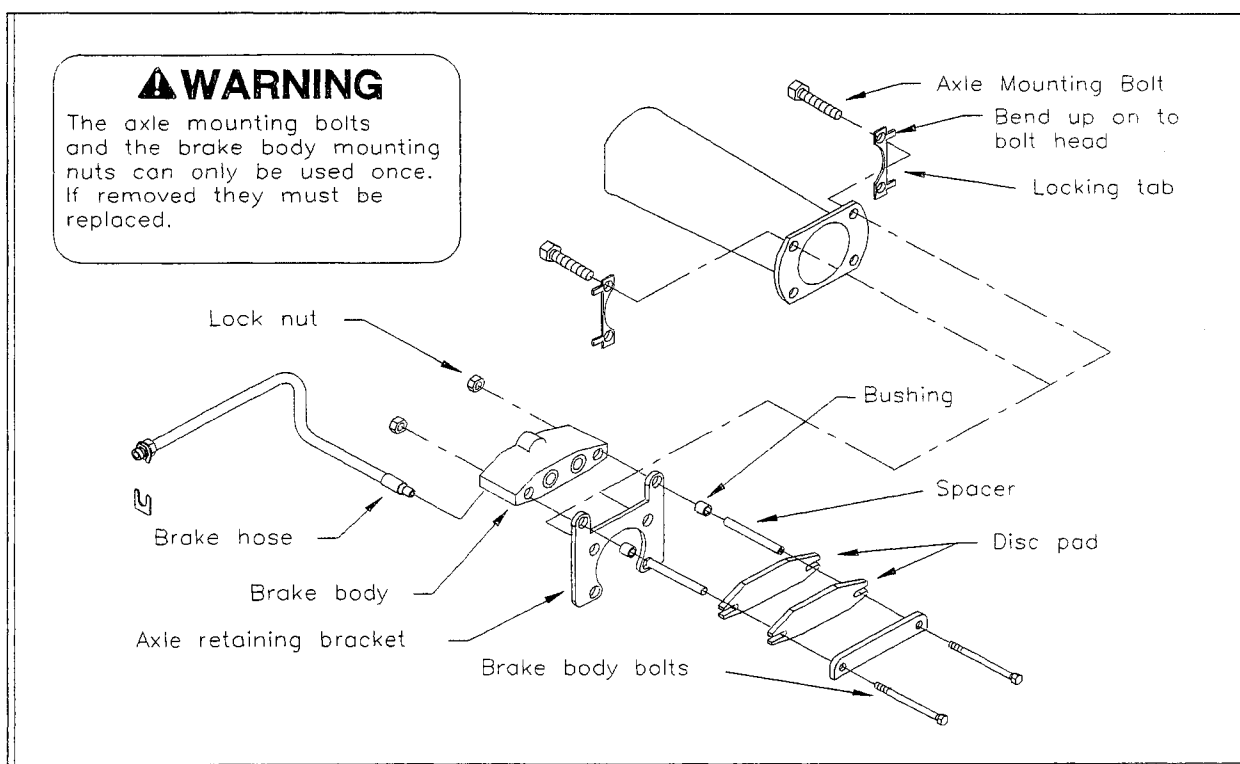

Figure 3-2
- Remove the two 1/4" brake body bolts (see figure 3-2).
- Replace the brake pads and reassemble the brake to the retainer bracket (see figure 3-2).